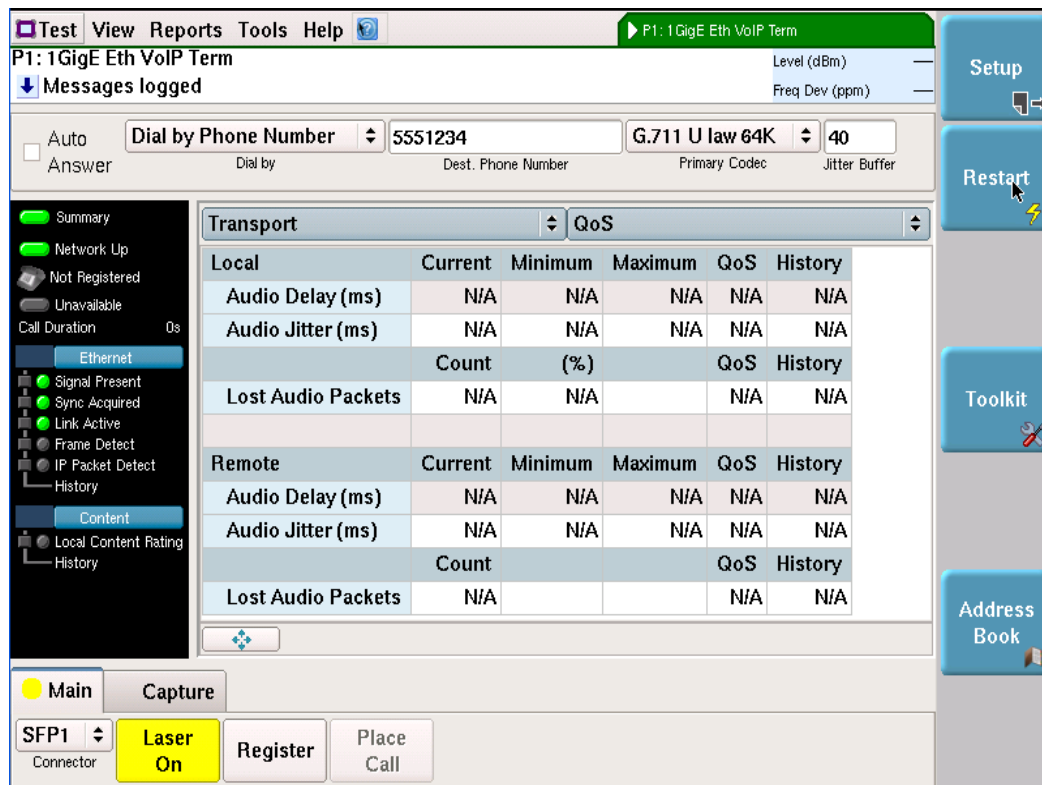

Figure 50 VoIP results: Transport quality
- When you launch applications subsequent times, the result view that was displayed the last time you ended a test appears. For example, if the Transport quality results were displayed the last time you ran the application, the next time you launch the application, the Transport quality results will appear (see Figure 50 on page 182).